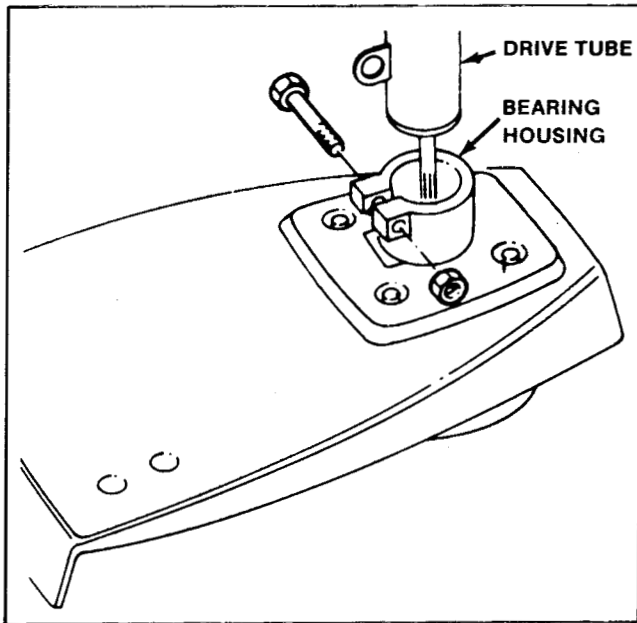

Figure 103
2. Remove the locknut and the machine screw from the bearing housing. See Fig. 103.